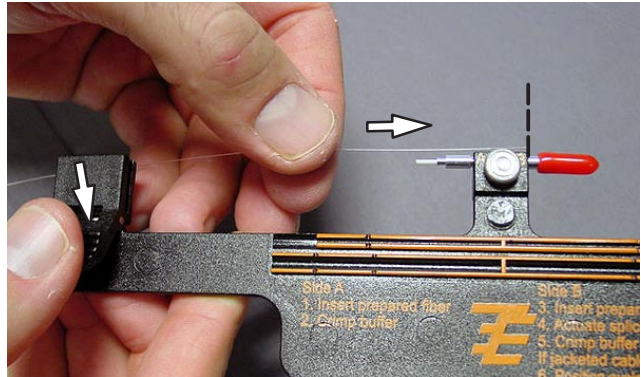

Figure 38
1. Open the clamp on side A and align the tip of the fiber with the edge of the holder as shown in Figure 38.